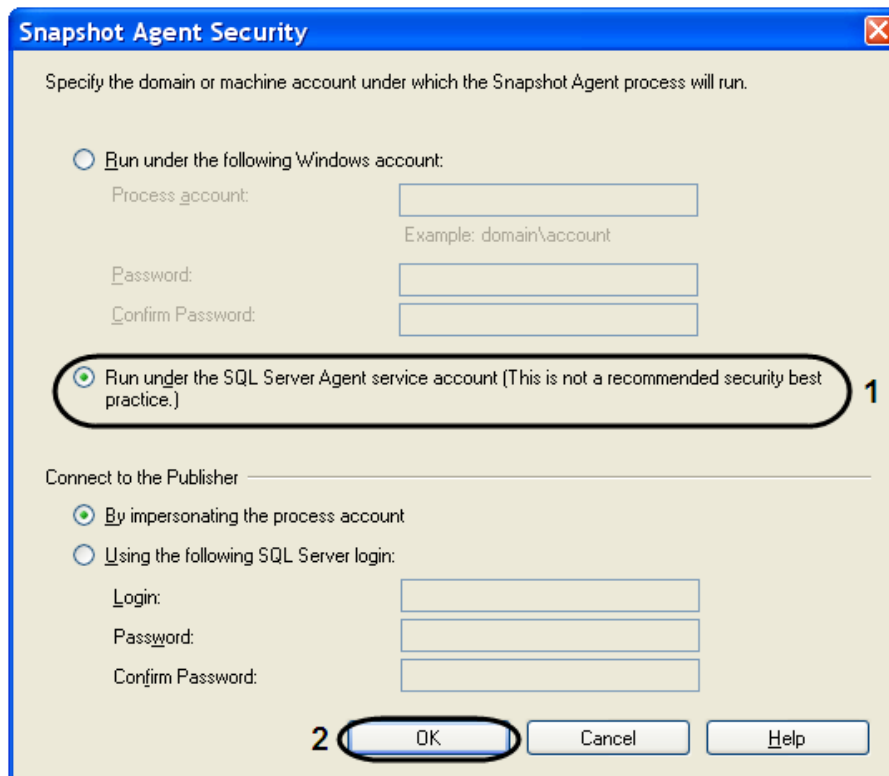

Fig. 9.3-9 Snapshot Agent Security
- 10.11. «Snapshot Agent Security» window will open in result (Fig. 9.3-9).
- 10.12. Set the switch to the position«Run under sql server Agent service account (This is not a recommended security best practice) » (Fig. 9.3-9, 1).
- 10.13. For saving the changes click OK (Fig. 9.3-9, 2).